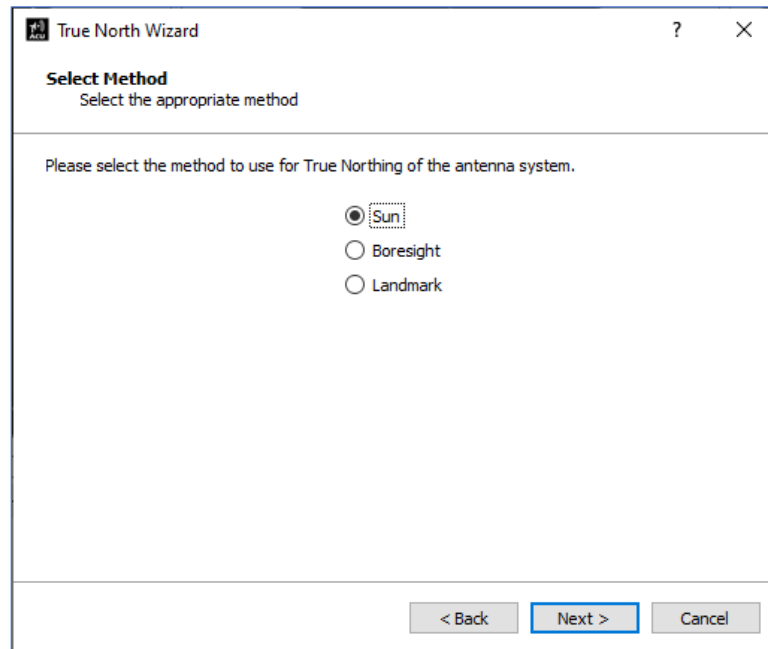

Figure 57: True North Wizard, Select Method
2. The True North Wizard, Select Method screen, shown in Figure 57, is used to select the desired option for aligning the antenna: Sun, Boresight, or Landmark. Each method of alignment uses the same setup and Wizard. The most common is the Sun method, which is described in this manual.
The sun calibration method is selected by selecting the Sun parameter in the True North Wizard, as shown in Figure 57. Then, select the Next button to continue.